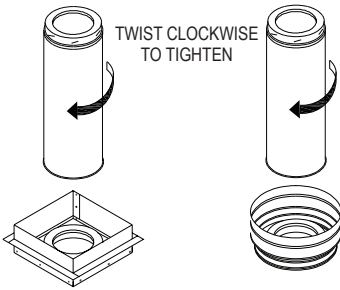

Figure 12
7. Assemble Chimney Sections: Lower the female end of the first Chimney Section in the Support Box (**Fig.12**). It will twist-lock clockwise onto the male end of the Support